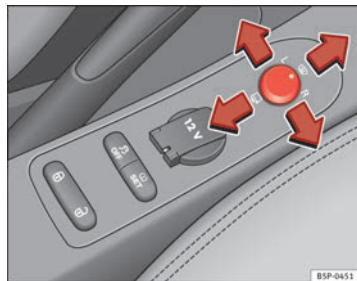

Fig. 90 Controls of exterior mirrors
1. Turn knob → Fig. 90 to position **L (left exterior mirror)**.
- Turn the control ⇒ Fig. 90 to position to fold in the exterior mirrors. You should always fold in the exterior mirrors if you are driving through an automatic car wash. This will help prevent damage.